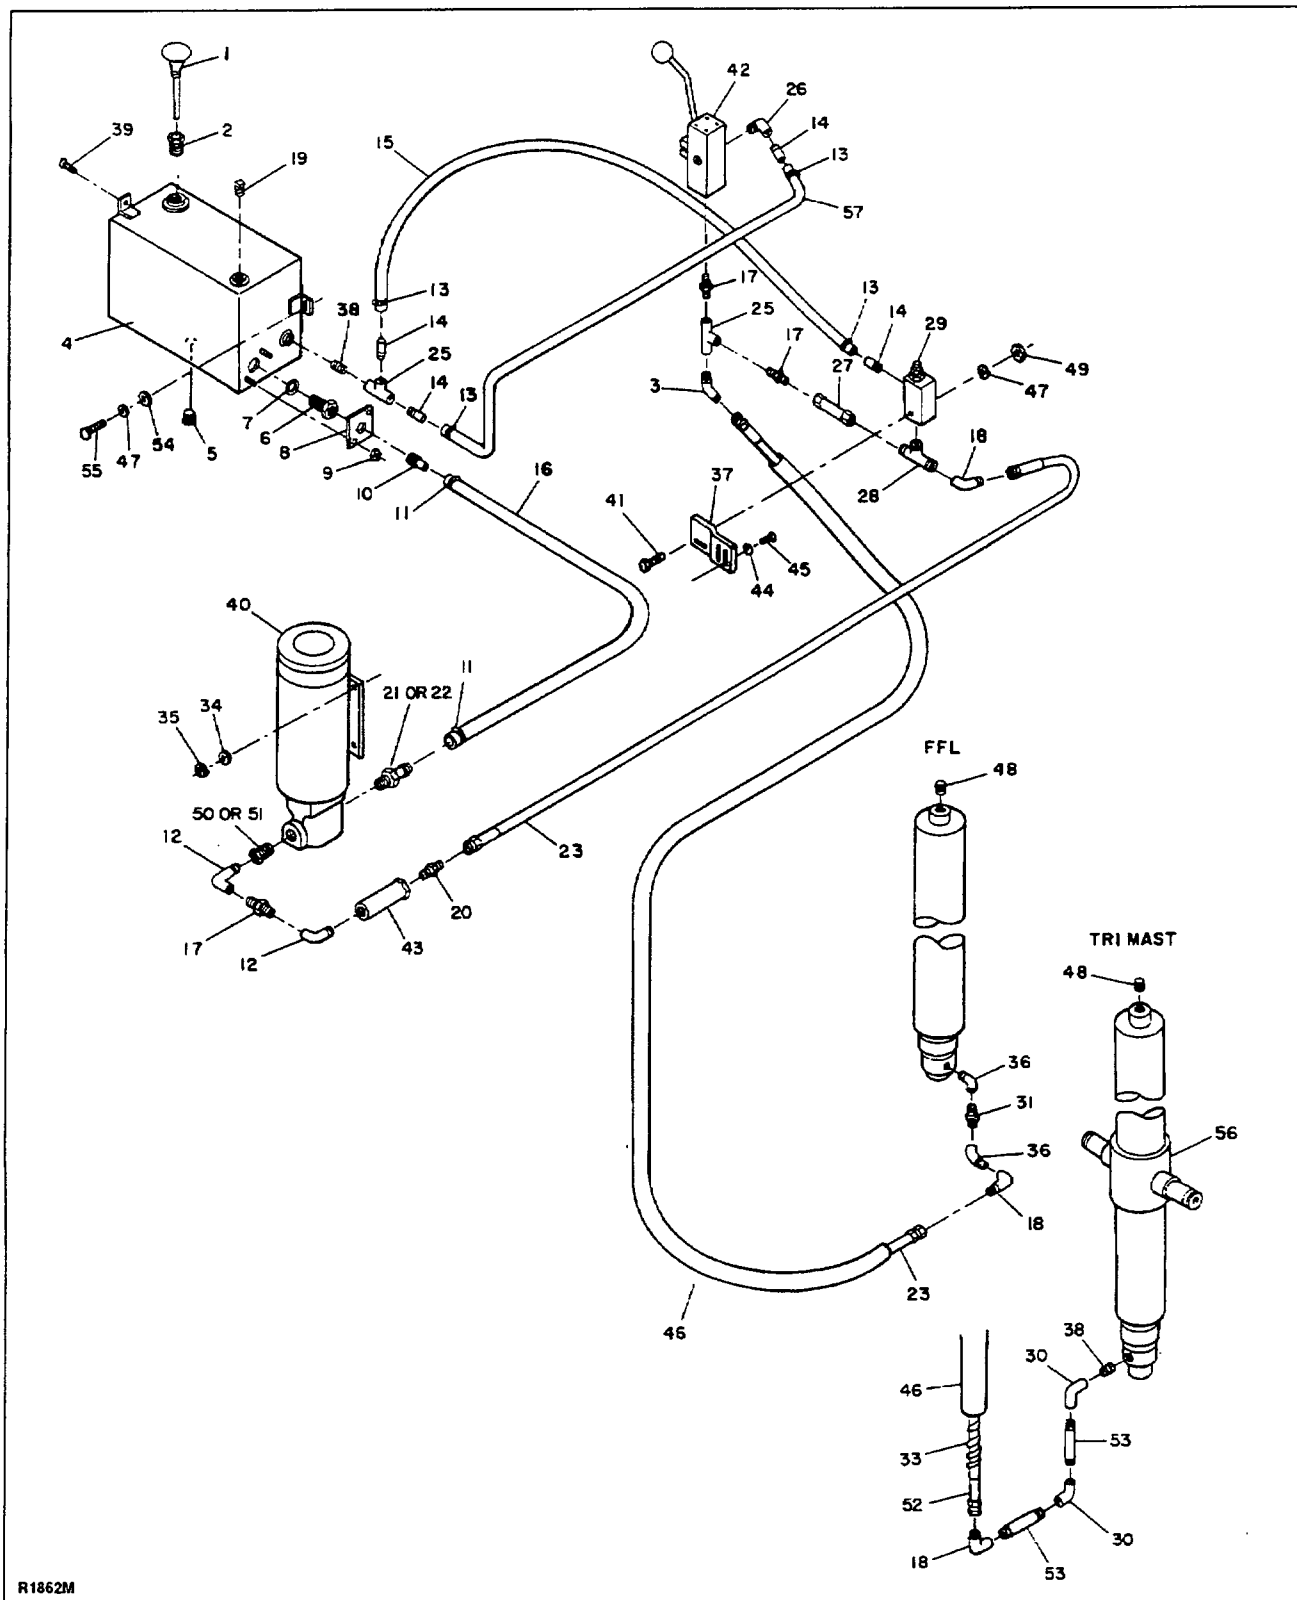

Figure 9-8. Hydraulic System
3. Remove reservoir drain plug (8, Figure 9-7 or 5, Figure 9-8) and drain hydraulic oil into a suitable container.